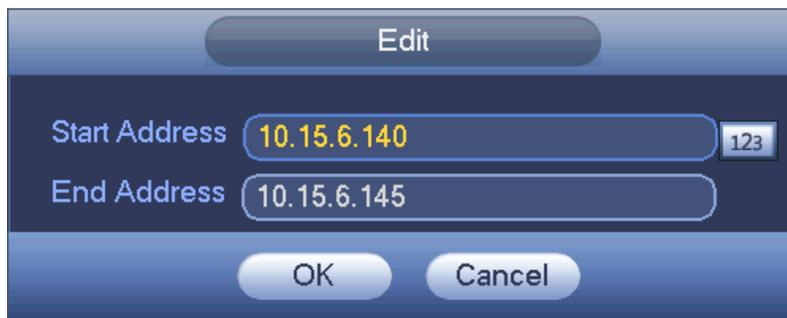

Figure 4-79
- Edit: Click it to edit start address and end address. See Figure 4-79. System can check the IP address validity after the edit operation and implement IPv6 optimization.